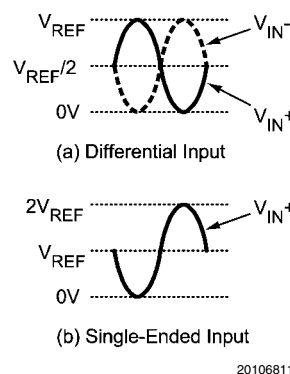

FIGURE 2. Expected Input Signal Range
*Figure 2* shows the expected input signal range. Note that the common mode input voltage,  $V_{CM}$ , should be in the range of 0.5V to 2.0V with a typical value of 1.5V.